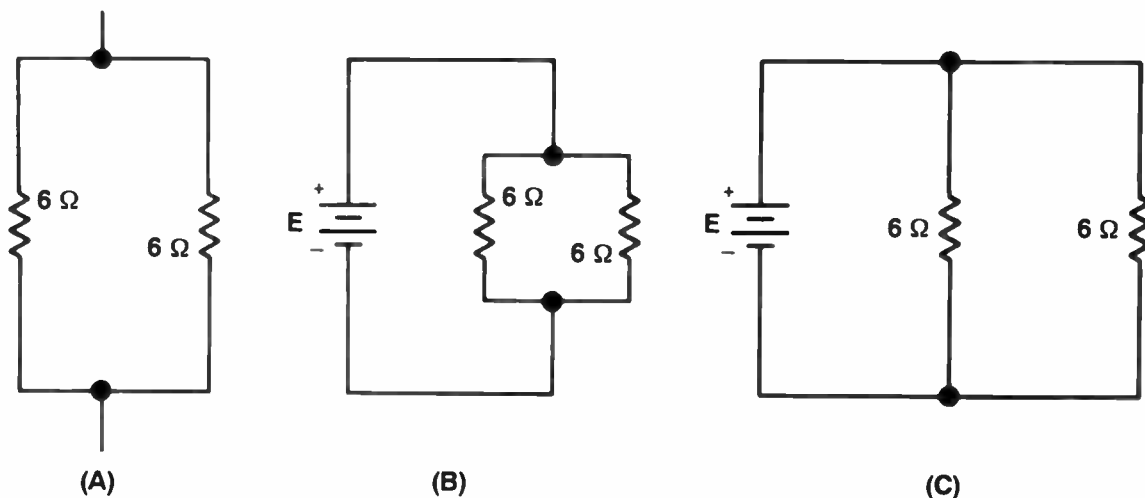

Figure 1. Simple parallel resistor circuits.
In Fig.1(A) two 6-ohm resistors are connected in parallel. Figure 1(B) shows how these resistors could be connected across a battery. When electrons from the negative terminal of the battery reach the junction of the two resistors, half of the electrons flow through one resistor, and
The electrons flowing in each resistor join again at the other junction of the two resistors, and flow back to the positive terminal of the battery. Figure 1(C) shows a different way to draw the same circuit, but its difference from the diagram in Fig.1(B) is that it does not indicate a change in the basic operation of the circuit. Electrons flowing from the negative terminal of the battery divide at the junction; half go through one 6-ohm resistor and half through the other. The two currents join at the other junction, and return to the positive terminal of the battery.